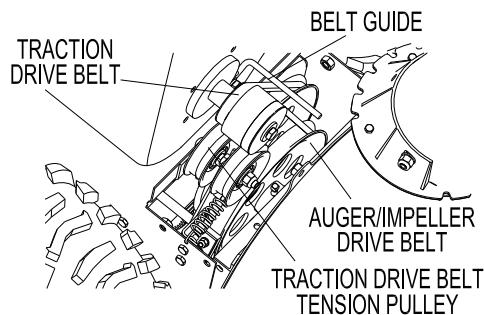

FIG 29
**6.11.2** Remove the auger/impeller drive belt. (FIG 29)
**6.11.3** Loosen the traction drive belt tension pulley. (FIG 29)
**6.11.4** Remove the traction drive belt. (FIG 29)